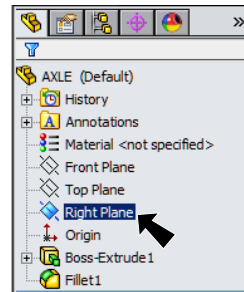

Fig. 9
Step 1. Click **Right Plane**  in the Feature Manager to select Plane, **Fig. 9**.